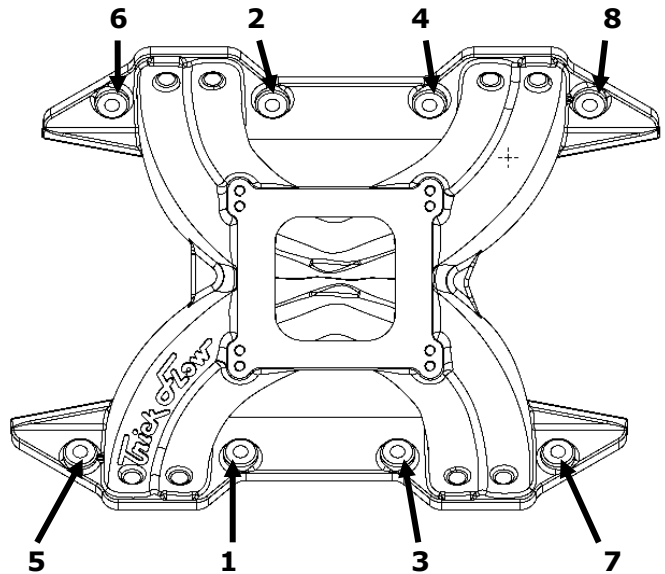

Figure 1
4. Torque the intake bolts to 25 ft.-lbs. in two steps using the sequence shown in Figure 1. You must repeat the sequence until all the bolts are torqued to specification. The manifold will work its way into the proper position during this process.